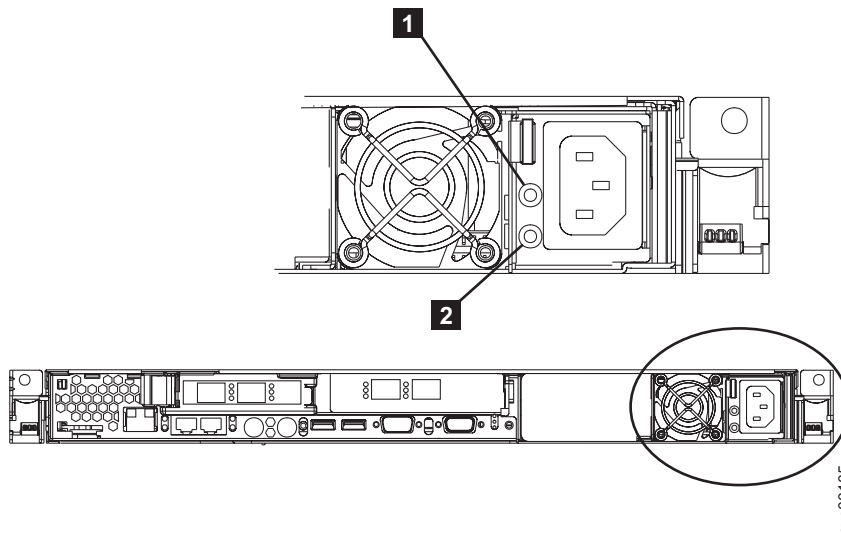

Figure 148. AC and DC power LEDs
5. Make sure that the power-supply fan starts and the AC power LED **1** and DC power LED **2** on the power supply are lit, indicating that the power supply is operating correctly. See Figure 148.